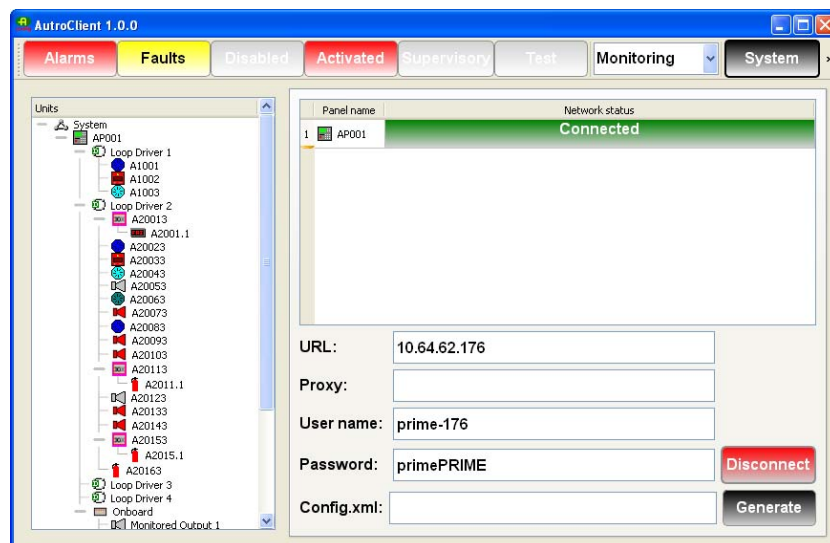

Figure 4. AutoClient on-line connection.
- Type the user name and password for the Autoprime system in question and select the “Connect” button. See figure 4.